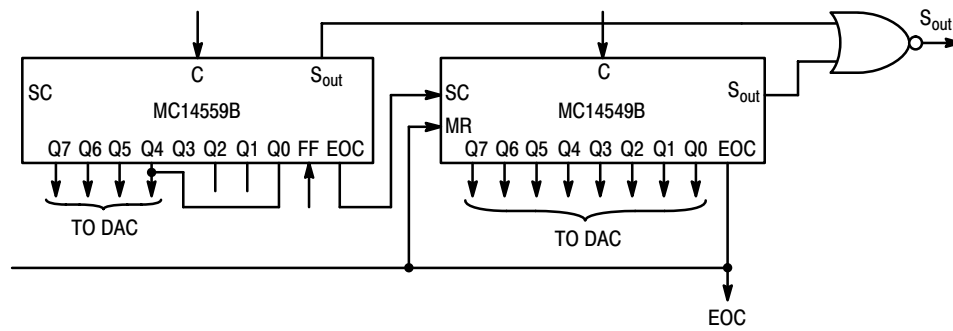

Figure 4. Continuously Cycling 12-Bit ADC
**Continuously Cycling 12–Bit ADC (Figure 4)**